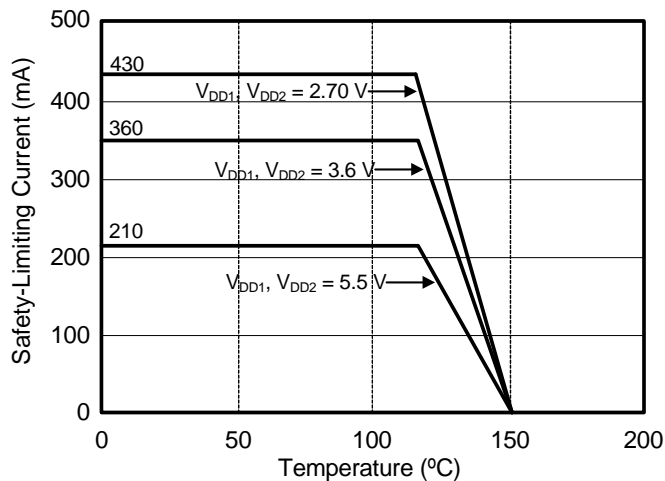
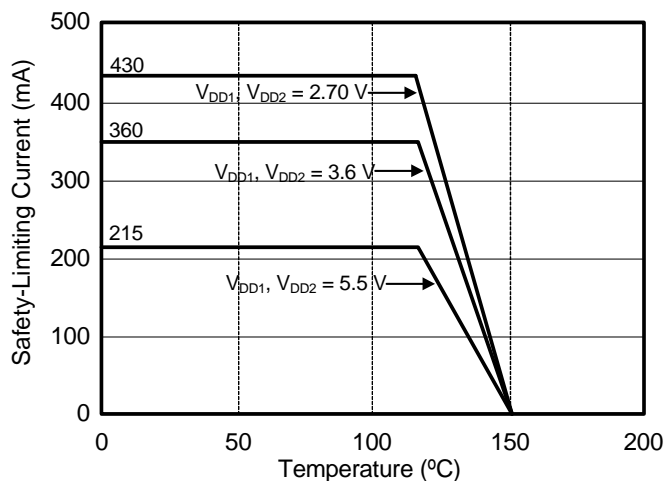

Figure 3. (Si844x, QSOP-16) Thermal Derating Curve, Dependence of Safety Limiting Values with Case Temperature per DIN EN 60747-5-2
Figure 4. (Si845x, QSOP-16) Thermal Derating Curve, Dependence of Safety Limiting Values with Case Temperature per DIN EN 60747-5-2
- Maximum value allowed in the event of a failure; also see the thermal derating curve in Figure 3 and Figure 4.